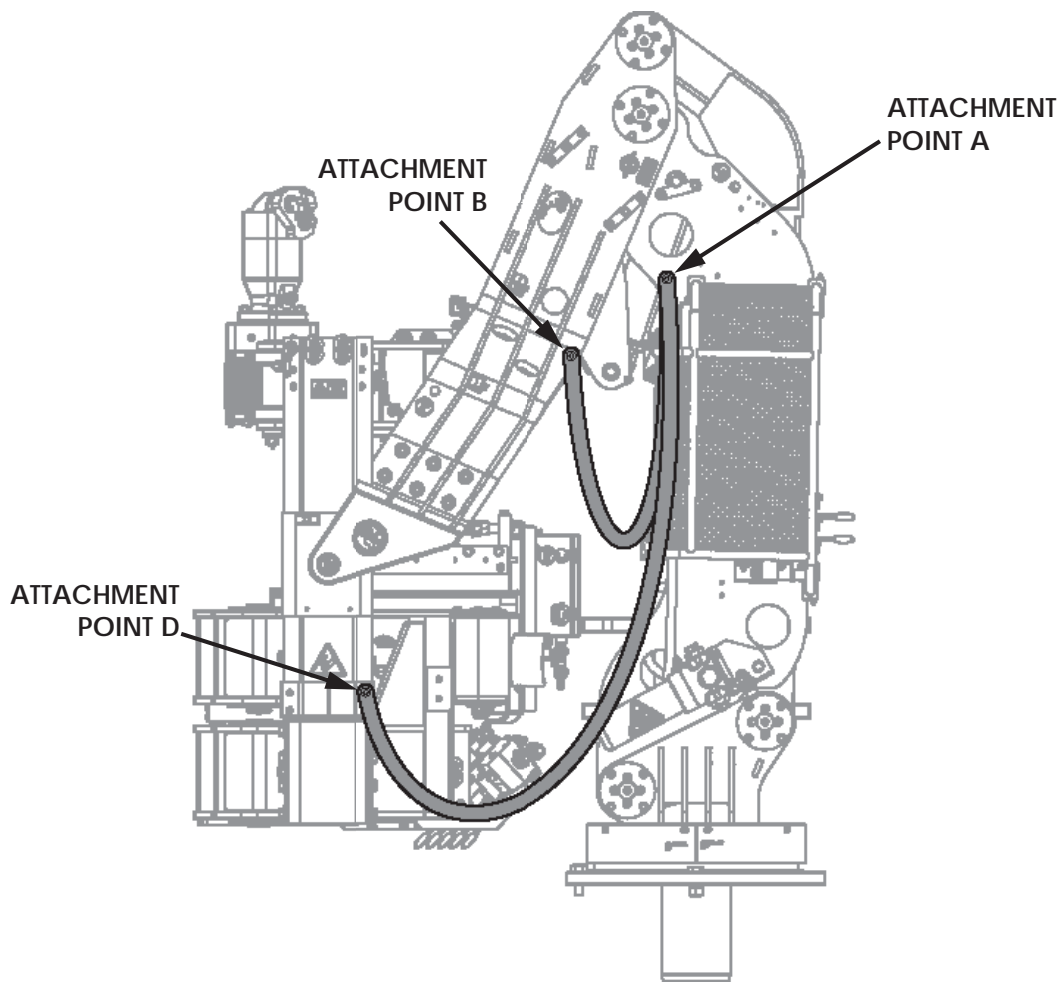

Figure 7: Barriers Attached to Left Side of the Wrench
3. Attach the other end of the long barrier to the Attachment Point "D" (see Figure 7) using the 5/8" cap screw and fender washer. Since this is a blind hole, no locknut will be used.